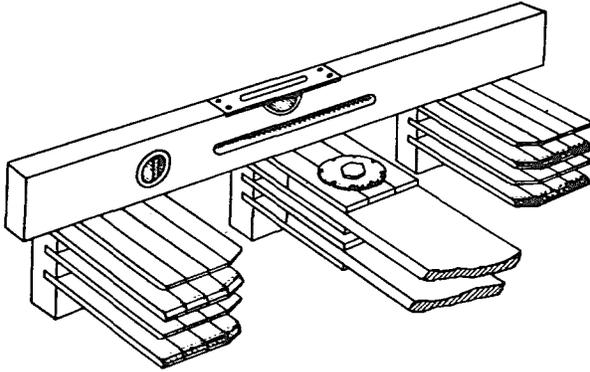

Fig. 5 - Illustrating Leveling of Contact Clips
(3) Place a level across the hinge contact as shown in Fig. 5 and align the tongue or clips on the side or sides of the hinge as closely as possible. (When the spring washer interferes with the placing of the level, tilt the top of the level away from the panel, allowing the edge of the level to rest on the hinge.) Tighten the mounting nuts or screws on the studs of the tongue or clips sufficiently to retain this alignment.
(4) Clean the contact surfaces of the blades and tongues or clips with a cloth moistened with petroleum spirits; apply powder to a clean cloth and rub well into the contact surfaces.
(5) Move the switch blade, or blades, over to the clips or tongue, and note that the blades of the switch line up in their proper relation to the tongues or clips. If the switch is double throw, do the same with the other side. Adjust as required and tighten all mounting screws or nuts firmly.
(6) Recheck for alignment after the nuts and screws are finally tightened.